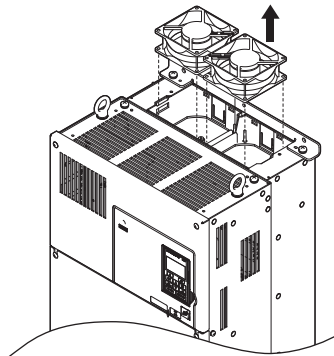

Figure 7.14 Removing the Cooling Fan: 4□0075 and 4□0091
- Lift up directly on the cooling fan as shown in Figure 7.14. Unplug the relay connector and release the fan from the drive.